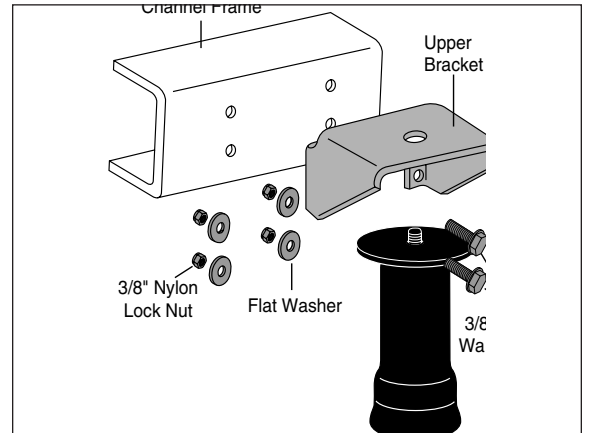

Figure 3
3. Measure the distance between the frame and the tire. This kit requires a minimum of 6” of clearance for a fully inflated air spring (Figure 3).